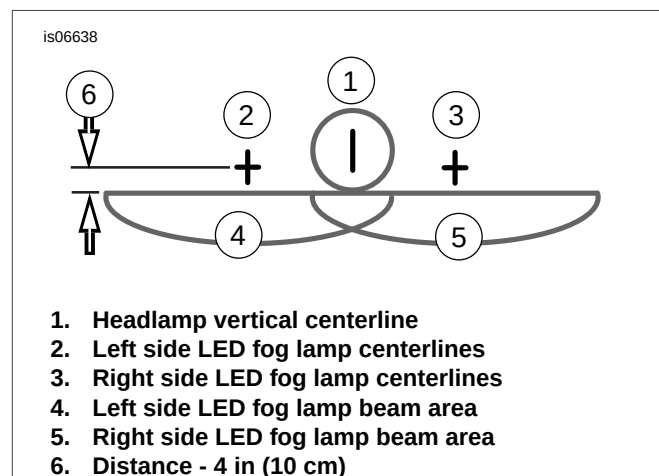

Figure 3. Properly Aim LED Fog Lamps
7. See Figure 3. Mark the LED fog lamp horizontal and vertical centerlines (2 and 3) on the wall according to the measurements taken in the previous steps.